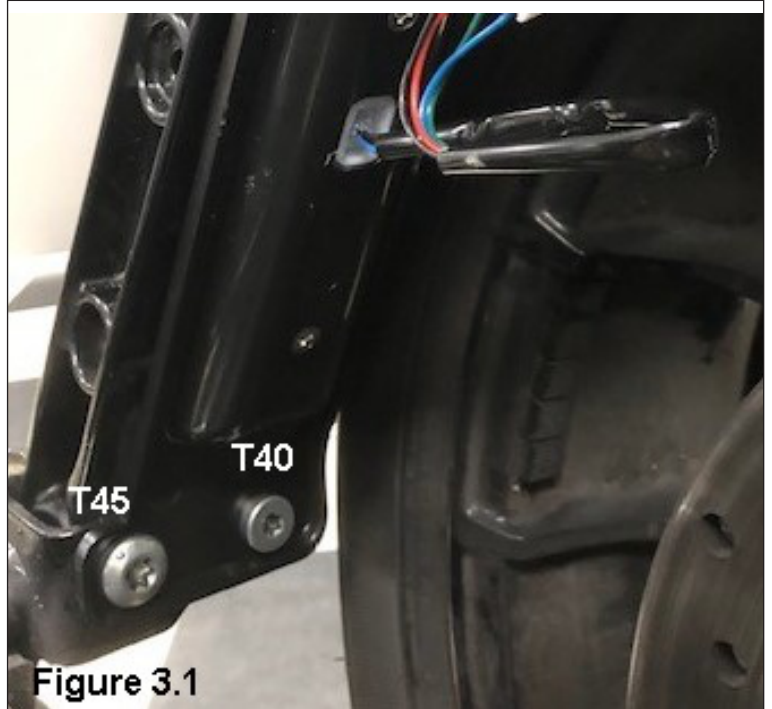

Figure 3.1
7. Remove the inner saddlebag support bolts using the T40 Torx and 1/2" Box Wrench (Figure 3.1)
8. Remove the outer saddlebag support bolts using the T45 Torx and 9/16" Box Wrench (Figure 3.1)
10. Reinstall the saddlebag support bolts and torque bolts. (Figure 3.1)